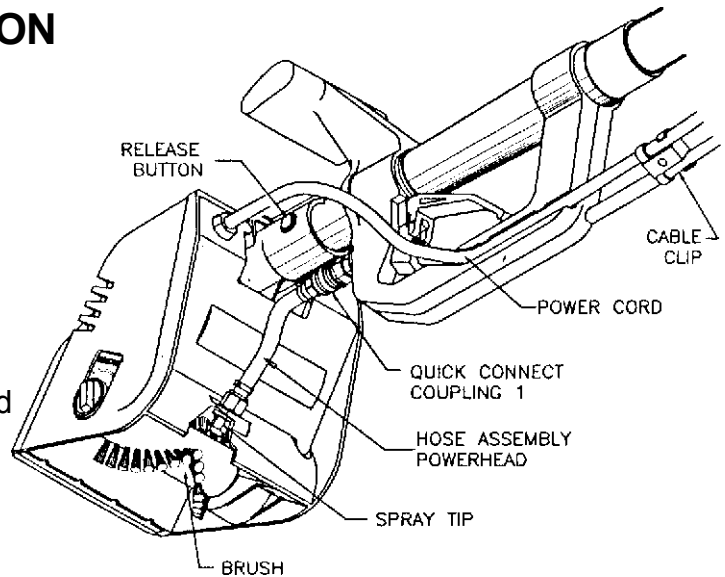

FIG. 3
2. Disengage powerhead from handle assembly by depressing the burgundy locking button and disconnecting coupling 1. (see fig. 3).